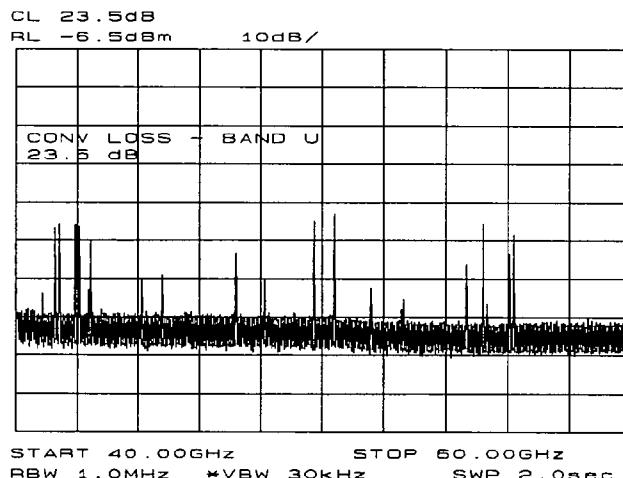

Figure 3-32. Store and correct for conversion loss.
- Table 3-1 lists default conversion-loss values that are stored in the analyzer for each frequency band. These values approximate the values for the HP 11970 Series Mixers. Other conversion-loss values may be entered into the spectrum analyzer in two ways. The first allows the user to save the average conversion-loss value for the entire band using **AVERAGE CNV LOSS**. To activate this function, press **AUX CTRU**, **EXTERNAL MIXER**, **AMPTD CORRECT**, **AVERAGE CNV LOSS**, then enter the appropriate average conversion-loss value. On HP 11970 Series Harmonic Mixers, these values are charted on the mixer. The U-band mixer used for this example had an average conversion loss of 35 dB, as depicted in Figure 3-32.